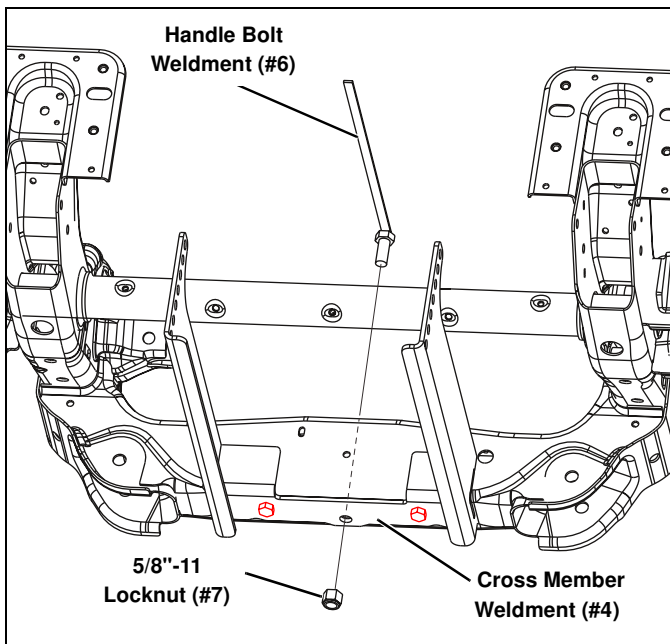

Figure 3
5. Enter from the top of the Cross Member and insert a 5/8"-11 x 1-1/2" Handle Bolt Weldment (#6) through the Cross Member, Cross Member Weldment (#4), and back splash guard. Fasten with a 5/8"-11 Locknut (#7). (See Figure 3.)